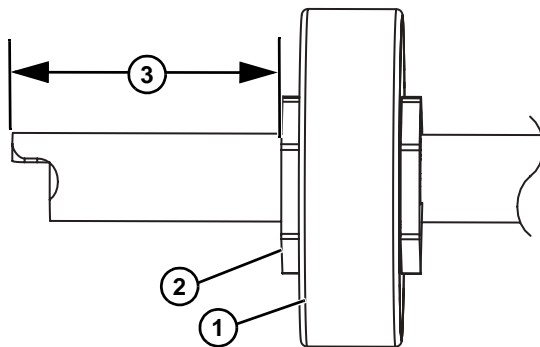

Figure 29
When assembling pucks (**Figure 29, item 1**) with retainer plates (**Figure 29, item 2**), make certain that there is a minimum of 38 mm (1.5") of clearance (**Figure 29, item 3**) on each end.